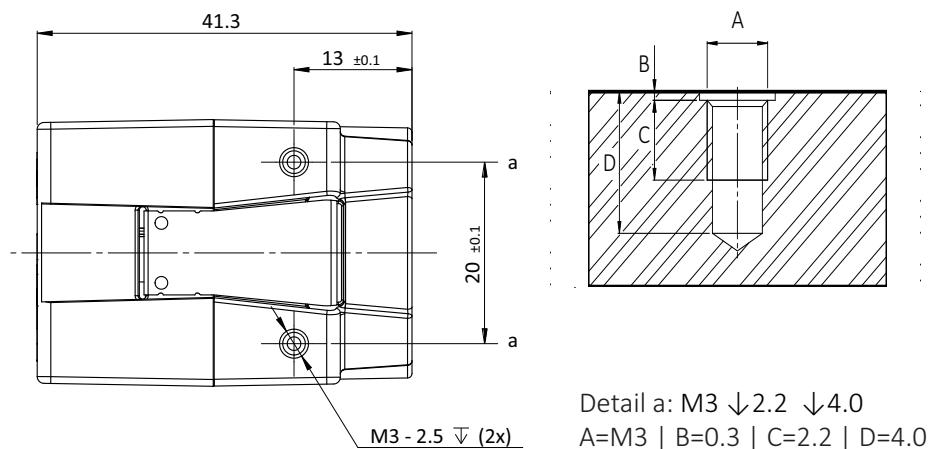

Figure 43: Mounting threads bottom and top (a)
1. As shown in Figure 43, mount the camera to the base using suitable M3 screws for mounting thread a: At 0.51 Nm maximum torque for a thread engagement (C) of 2.2 mm between screws and mounting threads.